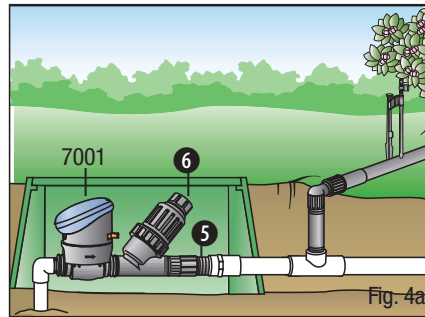

Fig. 4a
**a. Underground installation using in-line battery operated controller (Fig. 4a):** Use model 7001 and complete the head assembly by attaching #6, MNPT filter and #5, pressure regulator. Use 3/4" #72, swivel adapter if the polytube is connected to the assembly. If connecting to a PVC pipe, use a 3/4" PVC female adapter.